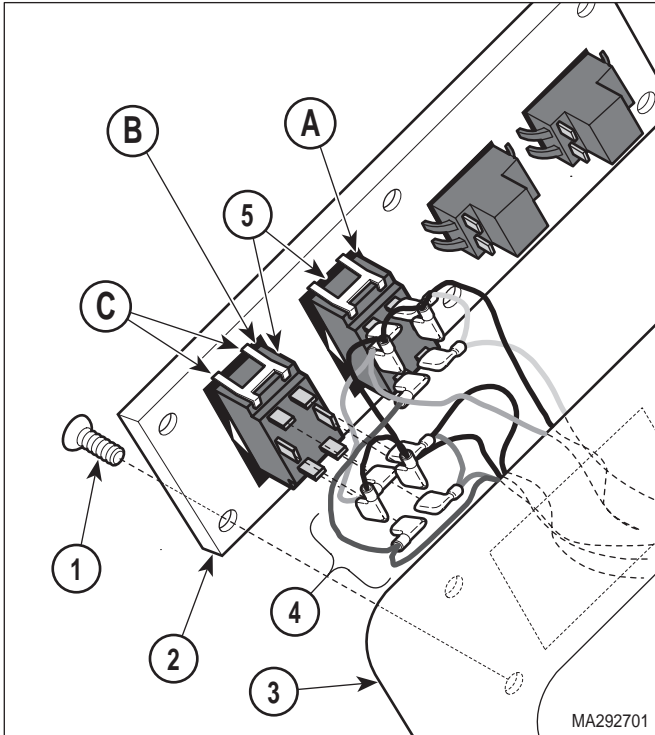

Figure 4-21. BACK UP / DOWN (A) or TILT UP / DOWN (B) Switch Removal / Installation
- (1) Unplug power cord from wall outlet.
- (2) Remove six screws (1, Figure 4-21) and separate switch plate (2) from seat weldment (3).
- (3) Disconnect six wires (4) from switch (5).